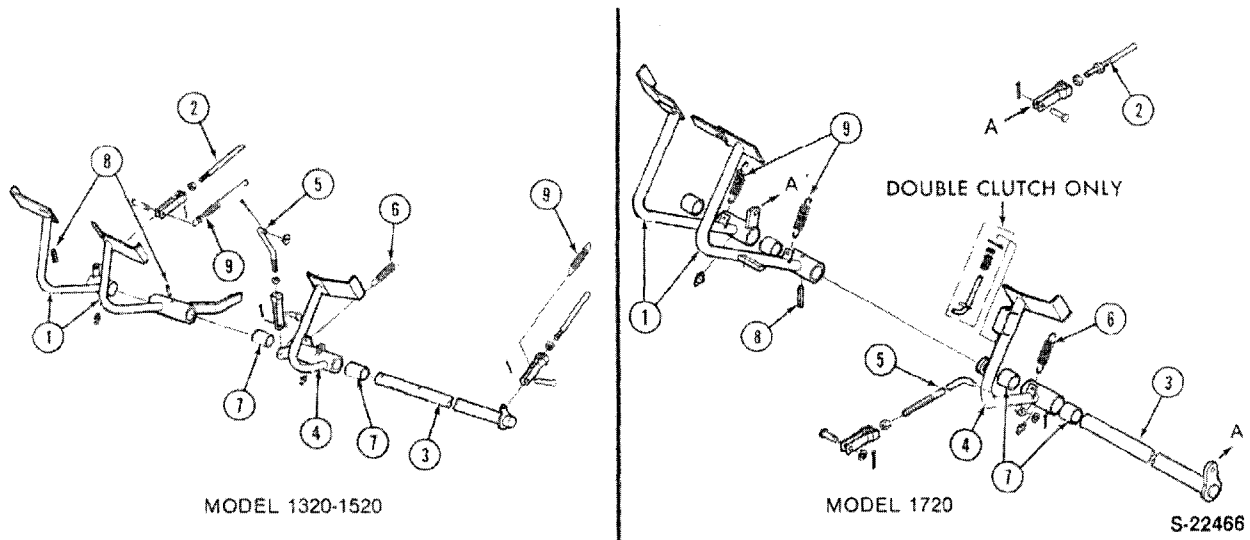

Figure 26
3. Remove the roll pin from the inner brake pedal and cross shaft, Figure 26.
4. Remove the roll pin from the fork and cross shaft and withdraw the cross shaft from the clutch housing, Figure 26.
Reference — Figure 26